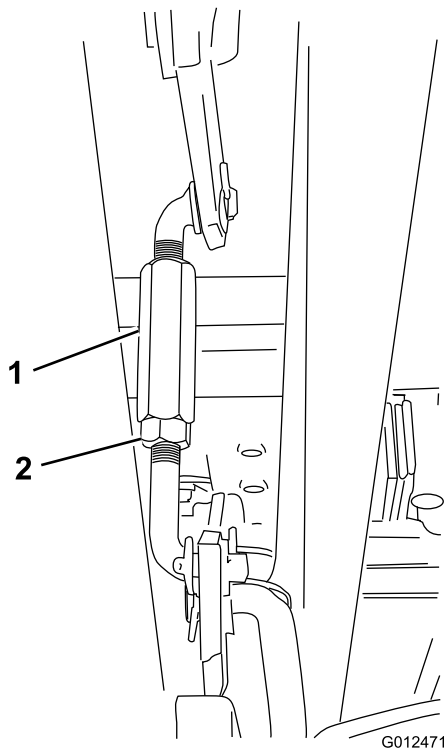

Figure 47
- Loosen the jam nut on at the end of the turnbuckle (on the right side of the machine; refer to Figure 47), and adjust the turnbuckle until the distance between the front tip of the left blade and the flat surface is 55 mm (2-1/8 inch).